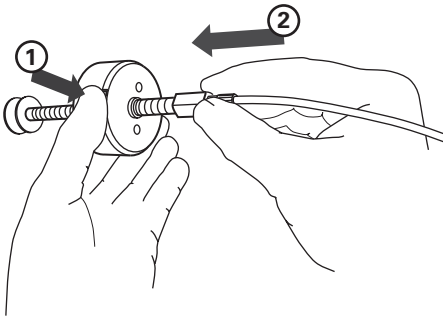

Figure 5-1 Press the lever and extend the plunger
2. Press the lever on the side of the cap and fully extend the plunger (Figure 5-1).